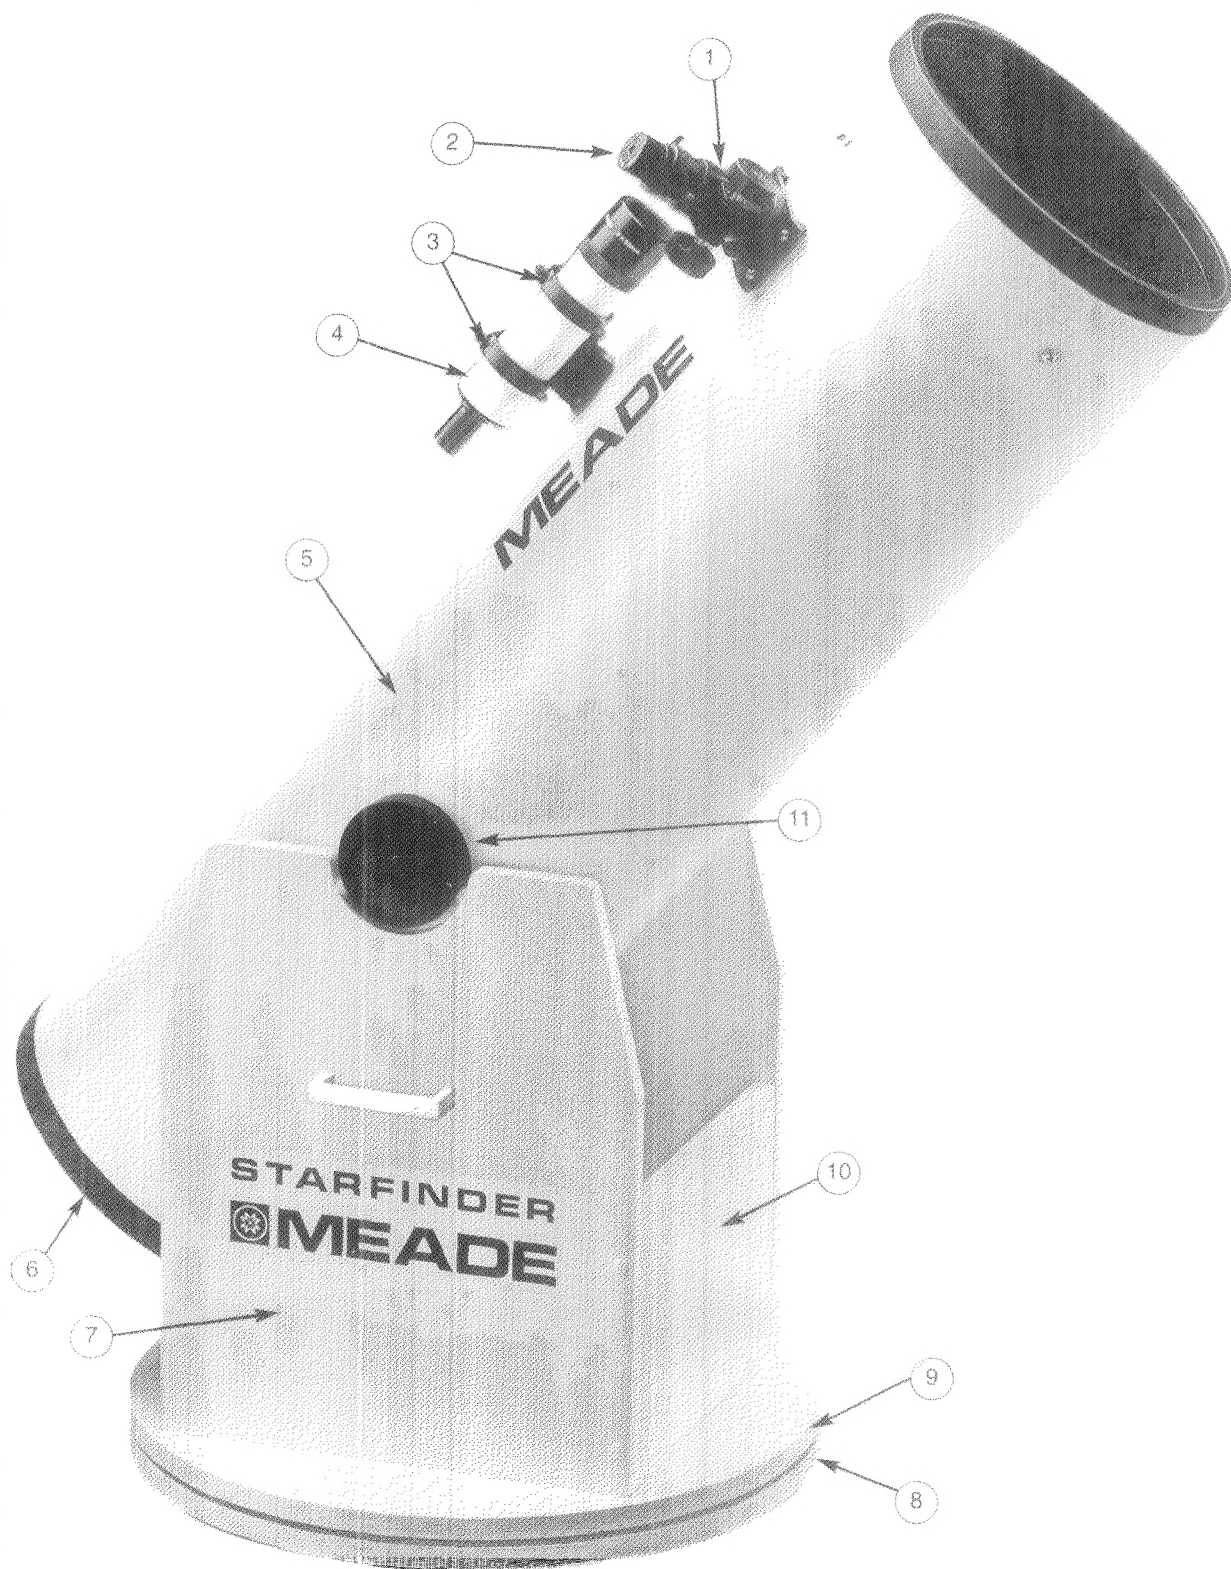

Fig. 1: The Meade Starfinder Dobsonian Telescope.
Captions for Fig. 1
When first opening the packing boxes, note carefully the following parts included with the Starfinder Dobsonian Telescope (use Figure 1 and 2 to aid in the identification process):
1. **Attaching the Focuser:** Lay the tube flat on the floor. Align the holes in the focuser assembly (1, Fig. 1) with the four pre-drilled holes in the optical tube. From the provided hardware, place the four Phillips-head screws through the holes. Then, carefully reach into the optical tube and attach a nut and washer to each screw. Tighten the screws, but do not overtighten; tightening to a firm feel is sufficient.
2. **Attaching the Viewfinder:** With the optical tube lying flat on the floor, align the two holes in the viewfinder bracket (3, Fig. 1) with the pre-drilled holes in the optical tube. From the supplied hardware, place a screw through each of the holes. Carefully reach into the optical tube and attach a nut to each screw. As with the focuser, tightening to a firm feel is sufficient. Overtightening may result in damage to the tube's finish. Aligning the viewfinder is discussed later in this manual.
4. Carefully place the assembled optical tube into the previously assembled base as illustrated in Figure 1. Note that the two large bearings on the side of the tube (11, Fig. 1) rest in the cutouts of the mount. Also note the orientation of the tube to the mount; the focuser (1, Fig. 1) should be on the opposite side from the mount's Front Board (10, Fig. 1).